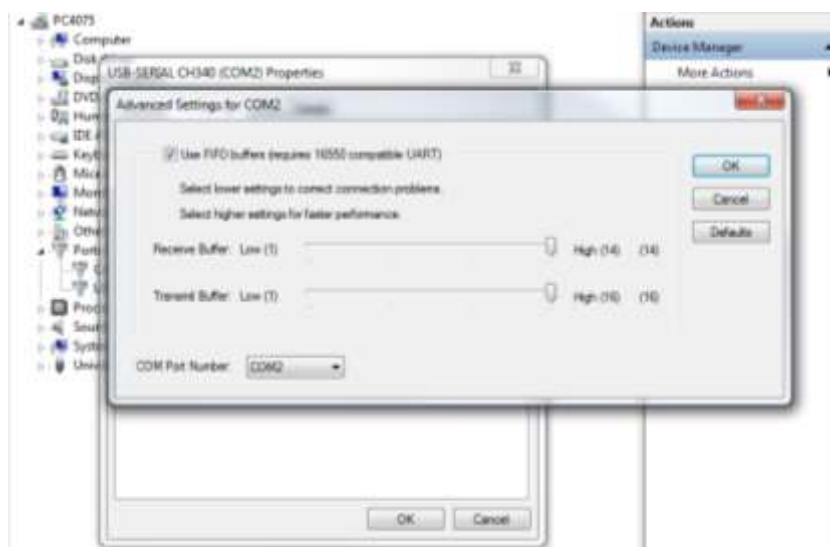

Fig.3
4. Select **Properties** » **Port Settings** » **Advanced** as per Fig.3